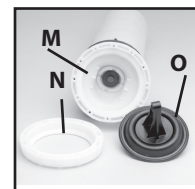

Figure 9
10. Place diaphragm assembly (O) onto the pump housing (M). Place the flange (N) over the diaphragm. Reinstall the 12 torx screws around the outside diameter of the flange. Figure 9.